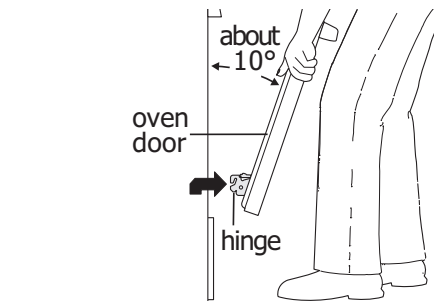
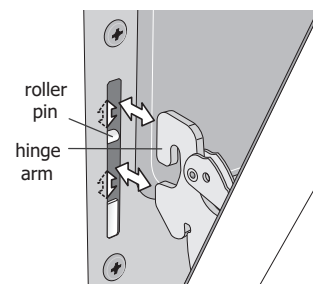

Figure 23: Holding door for removal
Figure 24: Replacement and location of hinge arm and roller pin
3. Firmly grasp both sides of oven door along the door sides. Do not use the oven door handle (See Figure 23).
4. Close the door to approximately 10 degrees from the door frame (See Figure 23).
5. Lift the oven door hinge arms over the roller pins located on each side of the oven frame (See Figure 24).
1. Firmly grasp both sides of oven door along the door sides. Do not use the oven door handle (See Figure 23).
2. Holding the oven door at the same angle as the removal position, seat the hook of the hinge arm over the roller pins located on each side of the oven door frame (See Figure 23 and Figure 24). The hook of the hinge arms must be fully seated onto the roller pins.